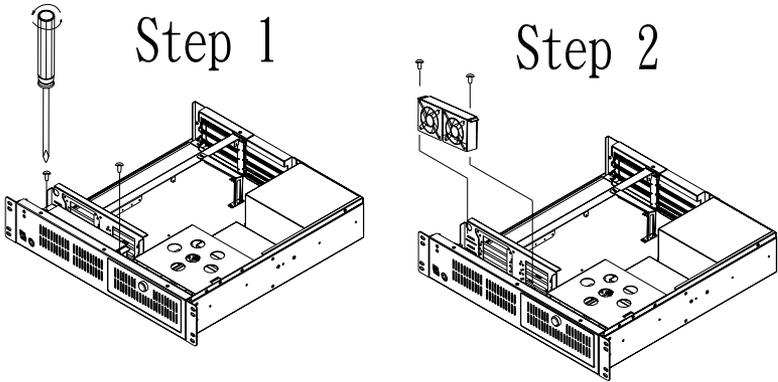

Figure 2-4: Replacing the fan
1. Unscrew the two screws on the fan bracket, and slide the bracket backwards. See Figure 2-4 below: